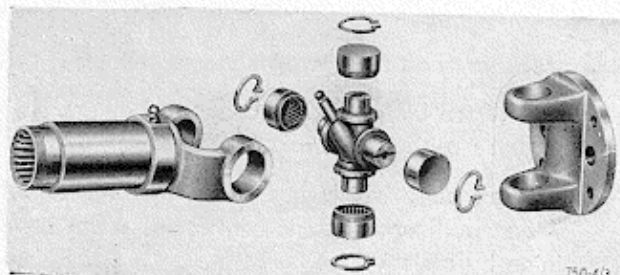

Fig. 3 - Details of a cardan joint
- a) Remove the four spring washers (Fig. 3);